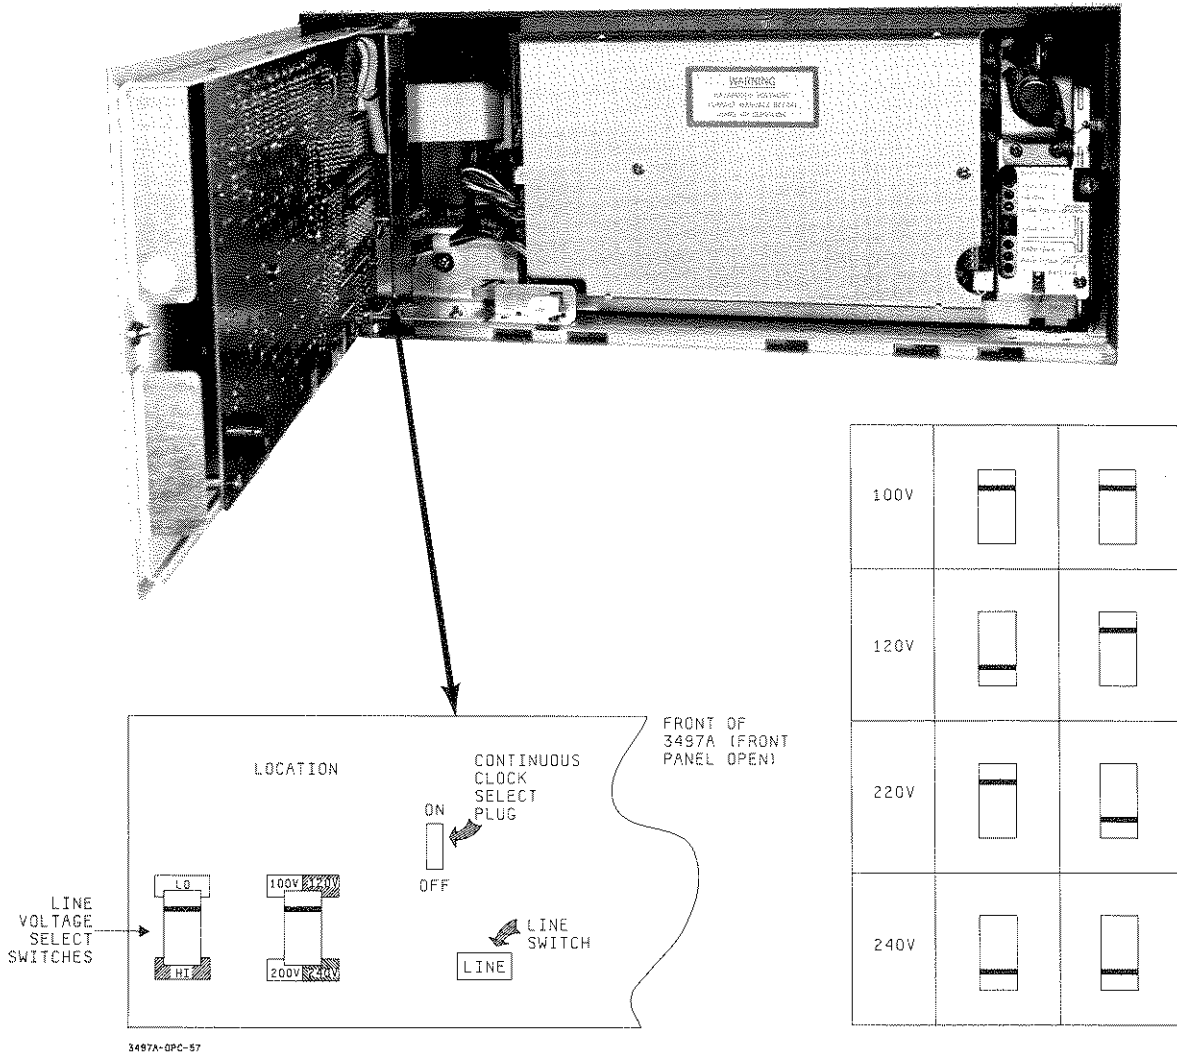

Figure 57. Line Voltage Selector Switches and Continuous Clock Select Plug
⑥	Interface Connector If you ordered a Standard (HP-IB) 3497A, an HP-IB Interface connector is installed. If you ordered a 3497A with Option 232, a Serial Data (RS232C/RS423) interface connector is installed.
⑦	Power and Frequency Options Check the box in the lower right-hand corner of the rear panel for the power option marked (100V, 120V, 220V or 240V). Check the box in the lower left-hand corner for the frequency option (50 Hz or 60 Hz) marked.
⑧	Line Voltage Selector Switches To verify that the Line Voltage Selector Switches are in the correct position for the power option specified, open the front panel on the 3497A by loosening the screw at the right side and swinging the panel open. Then, refer to Figure 57 which shows the location of the Line Voltage Selector Switches and the settings for each of the four power options. Leave the front panel open for the next step.
⑨	Battery Backup for Real Time Clock When AC power is removed from the 3497A, a 6V battery inside the 3497A keeps the clock operational for up to 24 hours. There are two types of battery backup, depending on the setting of the Continuous Clock Select Plug (see Figure 57 for location). Check this Plug to insure that the setting meets your operational requirements and then reclose the front panel. * Plug in OFF Position: Battery Backup supplied ONLY when the LINE switch on the 3497A is in the ON position when AC power is disconnected (this is the factory setting). * Plug in ON Position: Battery Backup supplied ANYTIME the AC power is disconnected, regardless of setting of the 3497A LINE switch.
⑩	Fuse Remove the fuse from the fuseholder and check to make sure that it is proper size for your line voltage (750 mA for 100/120 volts, 1.5A for 220/240 volts).